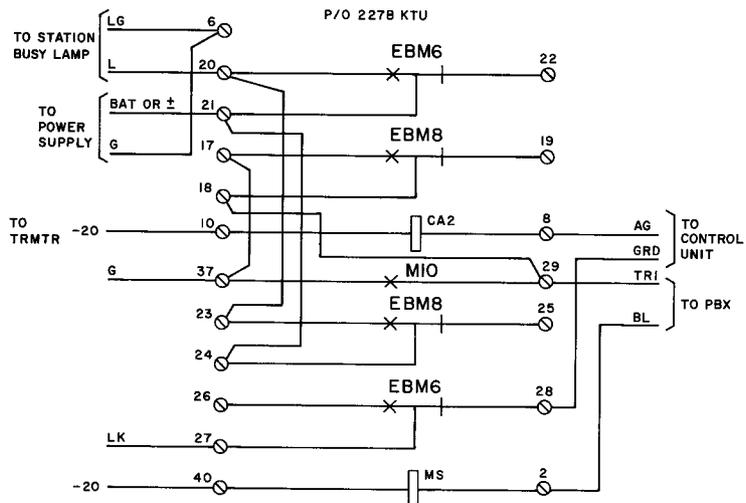

Fig. 5—Auxiliary Relay Circuit for Use With 750A or 755A PBX
2.14 An auxiliary relay is required when 3-type speakerphone service is provided with a 750A or 755A PBX. For connections refer to Fig. 5.♦